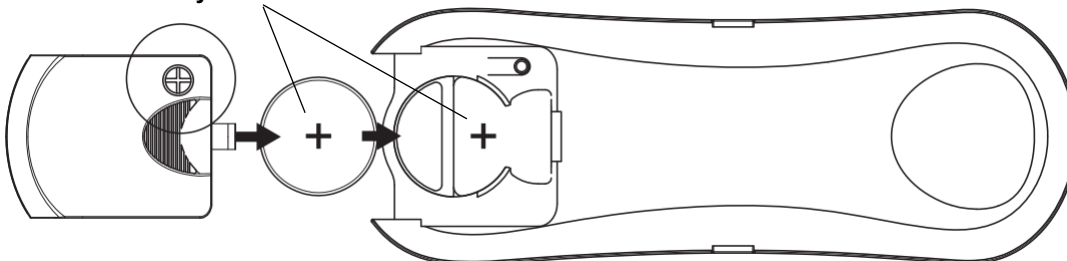

Fig. 15c
3. Install a new 3V CR2032 DC battery in the compartment. Please make sure the polarity of the battery is correct. (Fig. 15c)
5. Install the battery into the remote. Please make sure the polarity of the battery is correct. (Fig. 15c)